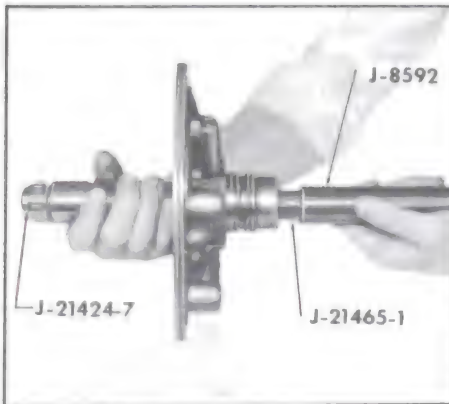

Figure 5-196
14. Check stator shaft bushing for nicks, severe scoring or wear. If bushing replacement is necessary proceed as follows: Assemble Bushing Remover J-21424-7 to Extension J-21465-13. Assemble this assembly to Drive Handle J-8592. Grasp stator shaft with hand using other hand and assembled tool drive out bushing. See Figure 5-196.